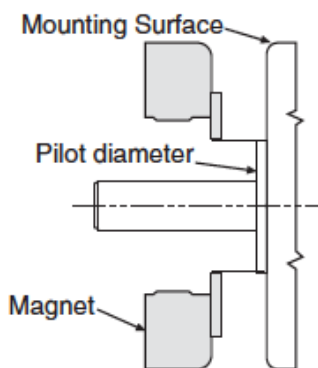

Figure 1
1. A pilot diameter on the mounting surface is essential to hold the magnet within the required tolerances. (Figure 1)